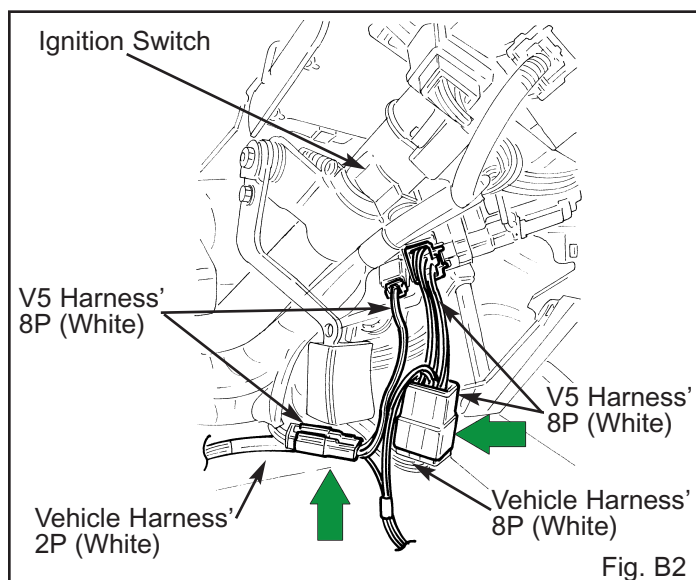

Fig. B2
2. Plug in the V5 harness' 8P connector between the vehicle harness' 8P connector and the ignition switch. (Fig. B2)
3. Plug in the V5 harness' 8P connector between the vehicle harness' 8P connector and the ignition switch. (Fig. B2)